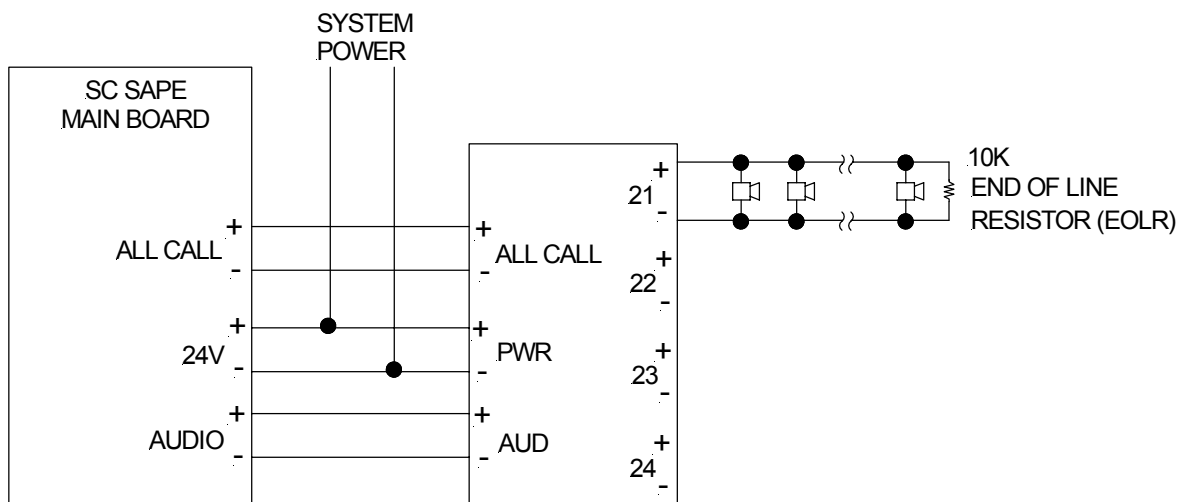

Figure 3.
1. See Figure 3 for wiring diagram.